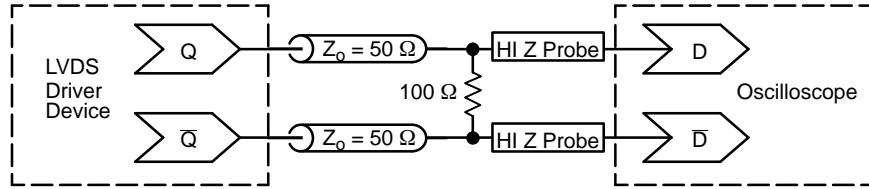

Figure 17. Typical LVDS Termination for Output Driver and Device Evaluation
- LVDS outputs require 100 Ω receiver termination resistor between differential pair. See Figure 17.
12. Measured by forcing $V_{INPPmin}$ with 50% duty cycle clock source and $V_{CC} - 1400\text{ mV}$ offset. All loading with an external $R_L = 100\ \Omega$. Input edge rates 150 ps (20%–80%). See Figure 17.